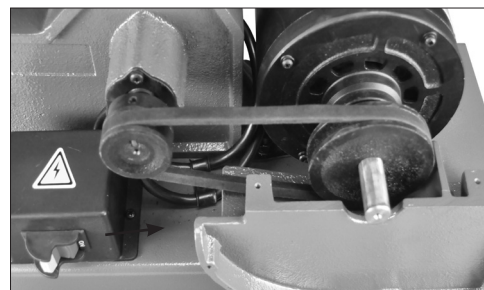

FIG. 3
5. The large Belt Pulley (#42) is on the motor arbor and the smaller Pulley (#87) is on the arbor that extends from the frame to drive the sanding belt. Slip the V-Belt (#38) onto the pulleys. FIG. 3.